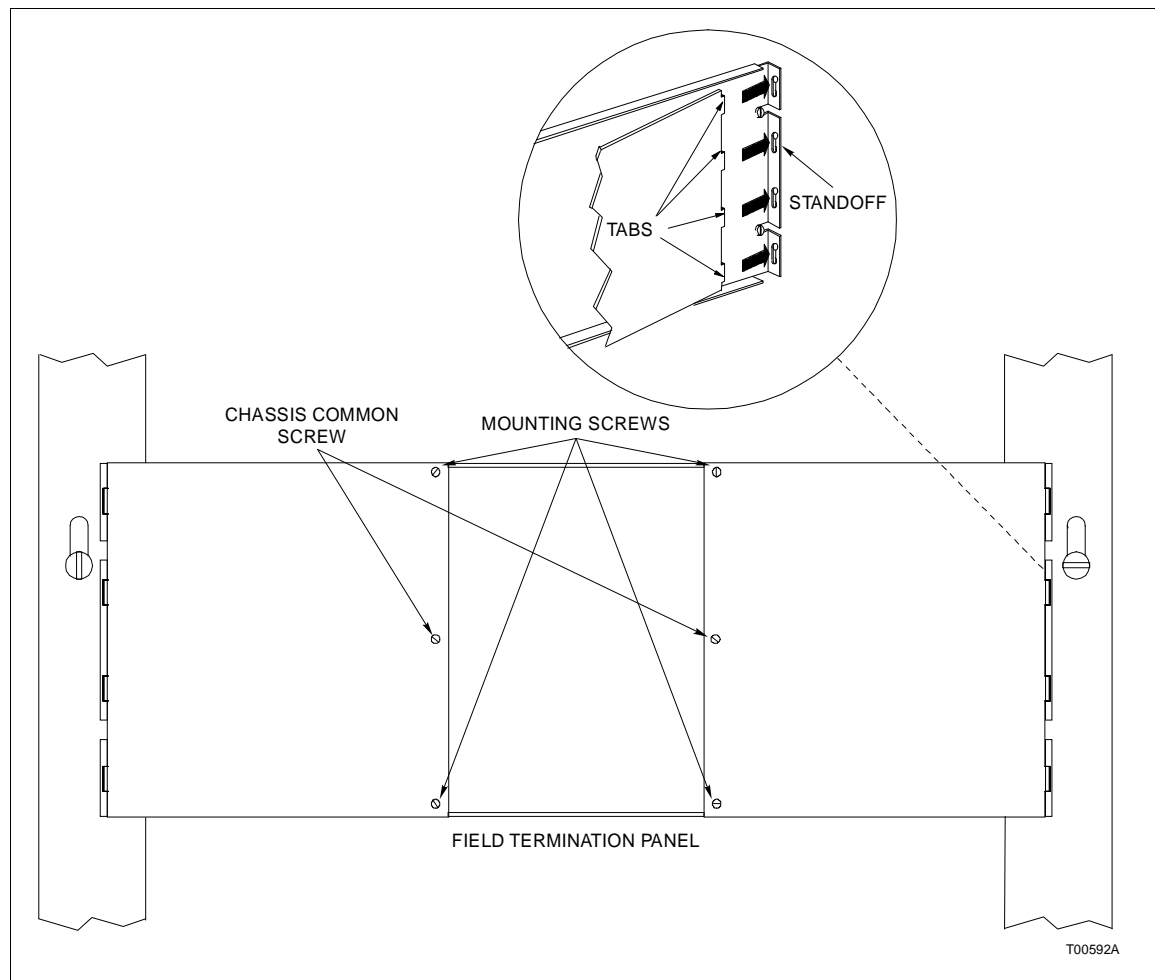

Figure 2-4. Installation for Revision A and B Hardware NTAI06
The TU mounts on a standard NFTP01 Field Termination Panel. Figure 2-4 shows how to secure the termination unit to the FTP.
3. Mount the TU to the field termination panel with two number 10, 3/4 inch screws. Do not over tighten the screws. See Figure 2-4.